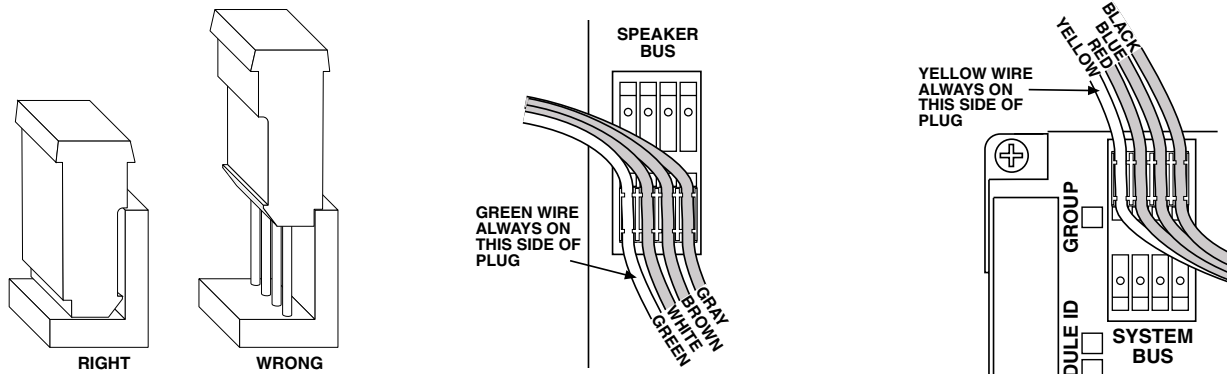

Figure 34. Observe correct polarity for all bus connections.
5. Make sure the system bus and speaker bus have solid connections, with the correct polarity (Figure 34). When your system is powered up from a battery or power supply, all the main modules should be blinking, with a “heartbeat.” If one or more modules do not show the blinking LED, check the System Bus connections.